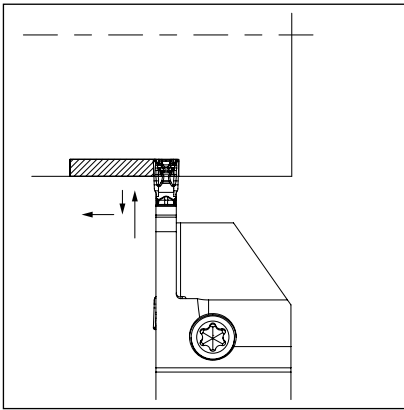

Fig. 1
- 1. Grooving depth over 0.5 mm:** For roughing - refer to fig. 1